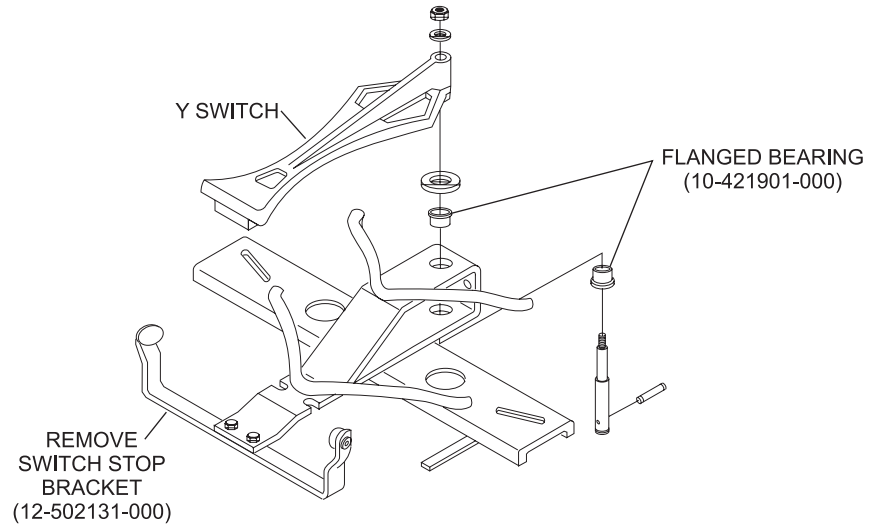

Figure 1
2. Remove and discard the switch stop bracket, 12-502131-000. Refer to *Figure 1*.
3. Check the flanged bearings, 10-421901-000, for wear and replace as necessary. Refer to *Figure 1*.